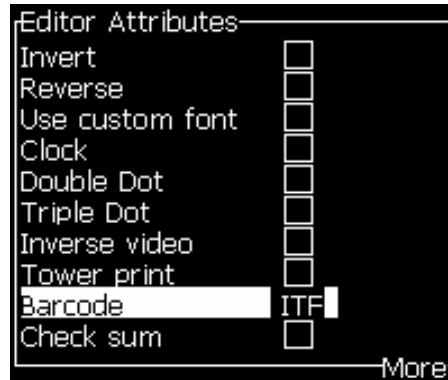

Figure 5-41: Select the Type of Barcode
- 2 Press the *F3* key or *ALT + E* and select *In-line Attributes* to open the *Editor Attributes* screen (see Figure 5-41 on page 5-49).